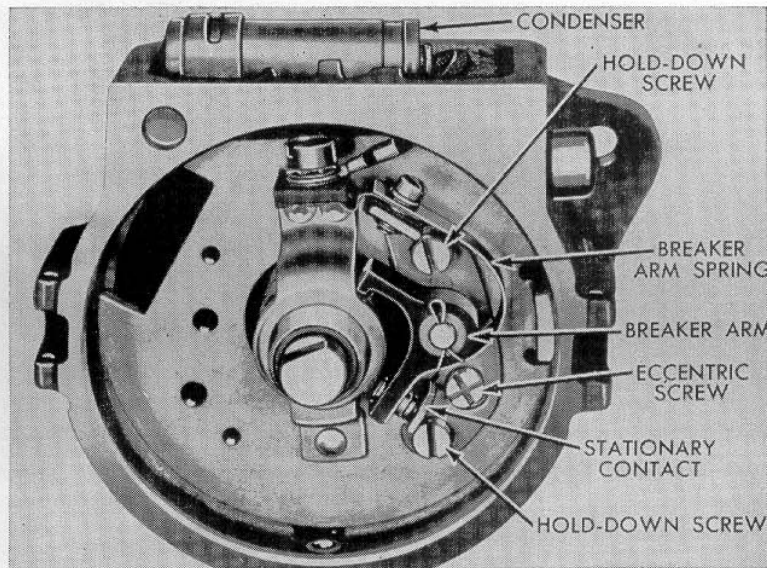
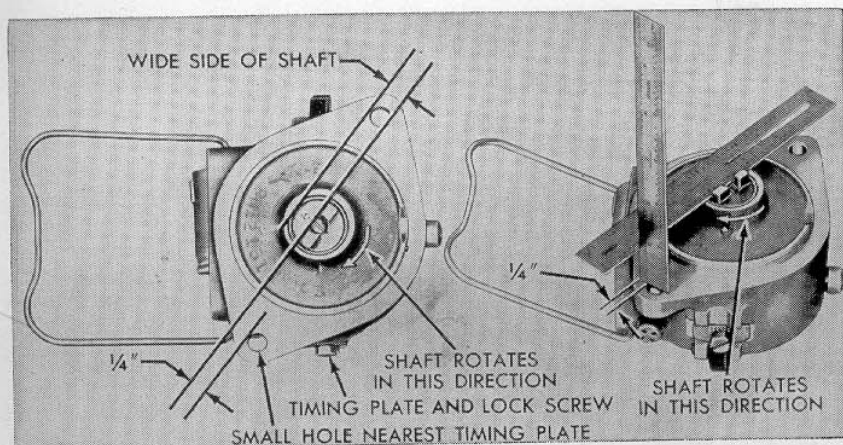

Fig. FO44—Distributor breaker contacts of Ford 9N12100 distributor used on models 2N, 9N and 8N prior to tractor serial 263844.
Fig. FO45—Distributor basic timing adjustment on models 2N-9N and 8N prior to tractor serial 263844.
54. On 2N, 9N and 8N tractors prior to serial 263844 the Ford 9N12100 battery ignition distributor is mounted on the front face of the timing gear cover directly in line with camshaft. Refer to Fig. FO44. In these installations the front end of the camshaft is slotted to receive a mating tang on the drive end of the distributor shaft. Spark timing at speeds above idling is controlled by
55. **TIMING TO ENGINE.** Adjust breaker contacts to .015 gap by loosening the two hold-down screws Fig. FO44 and turning the eccentric screw. Place a scale against the tang on the wide side of the distributor shaft as shown in Fig. FO45 then rotate the shaft until the scale is ¼ inch from the near edge of the small mounting hole as shown. With shaft in this position, the contacts should be just starting to open. Move the adjustment plate on the left side of the distributor down to advance the timing, up to retard the timing. If proper timing is not obtained on first attempt, turn shaft backward ½ turn to eliminate backlash, then repeat the check.
Loosen condenser lead and mounting screws and remove condenser. Pry out snap ring and remove breaker plate after lock screw is removed. Check distributor shaft fit in housing and breaker plate bracket, check condition of centrifugal advance mechanism, breaker contacts and condenser. Repair or renew parts where necessary and reassemble unit. Adjust breaker contact gap to .014-.016 and lubricate breaker point cam sparingly. See Fig. FO44.
is $\frac{1}{4}$ inch from top side of small mounting hole as shown in Fig. FO45. When shaft is in that position, breaker contacts should start to open. Move timing plate and screw until contacts open properly.